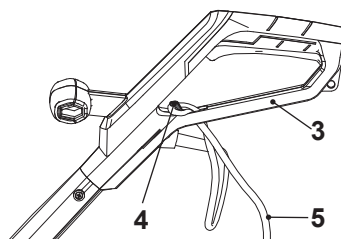

Fig. 5
2. Pull it over the cord retainer (4) and gently tug on the power cord (5) to ensure that it is firmly secured (Fig. 5).